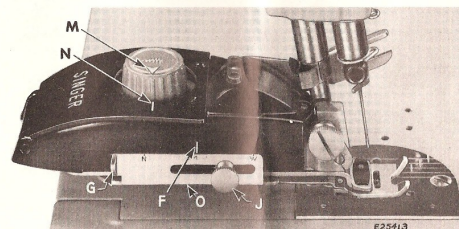

Fig. 9. To Regulate Bight and to Set Stitch Pattern to Start Design
6. Turn stitch pattern so that arrow M, Fig. 9 points to line N on top of cover. This setting denotes the beginning of the Zigzag, Domino and Arrowhead patterns and the central position for all other patterns. It also centers the foot for straight stitching.
1. Stop machine when zigzagger foot is in central position with arrow M, Fig. 9 opposite line N.
Set Stitch Pattern so that arrow M, Fig. 9 is directly opposite line N on cover of zigzagger. If, for any reason (such as thread breaking or bobbin running out of thread), it is necessary to start in middle of a design, stitch on a scrap of material until that point in design is reached. Then place work under needle at exact point in design. Continue to stitch.